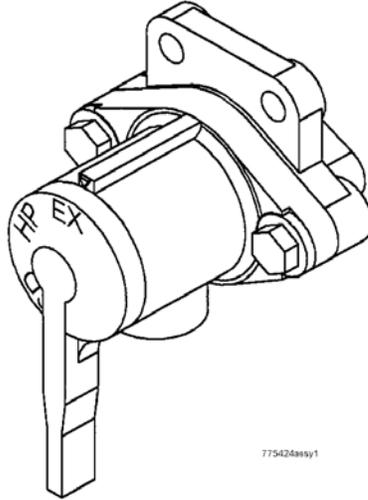

Figure 27: Composite Three Position Retaining Valve
**5.9 RETAINING VALVE, Fig. 27 and 28**